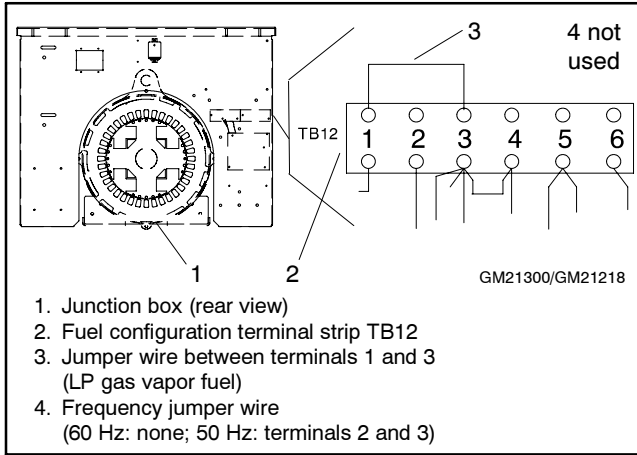

Figure 7-32 Fuel Configuration Jumper Wire (LP Fuel, 60 Hz, 30 kW [3.0 L] Model)
- **30 kW model with 3.0 L engine only.** Attach a user-supplied 18 ga. jumper wire between terminals 1 and 3 (LP gas vapor fuel). See Figure 7-32 for frequency jumper wire requirements.